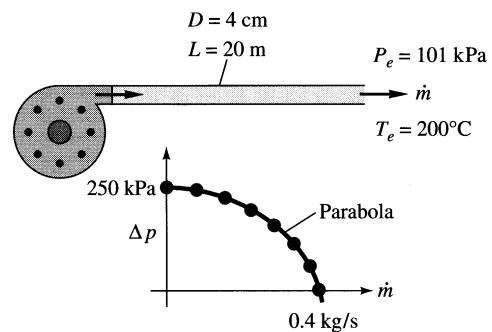

Fig. P9.99
**9.99** A compressor forces air through a smooth pipe  $20\text{ m}$  long and  $4\text{ cm}$  in diameter, as in Fig. P9.99. The air leaves at  $101\text{ kPa}$  and  $200^\circ\text{C}$ . The compressor data for pressure rise versus mass flow are shown in the figure. Using the Moody chart to estimate  $\bar{f}$ , compute the resulting mass flow.